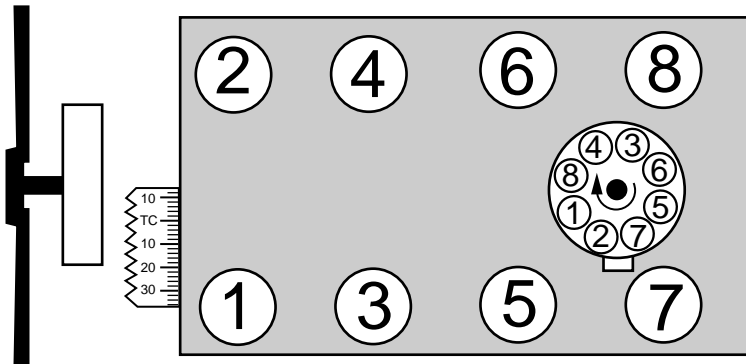

Figure 1
- **FIRING ORDER AND CYLINDER NUMBERING:** For cylinder numbering and firing order, see Figure 1.
2. Position stools on air cleaner at front, rear, each side and on center stud. See Figure 1.